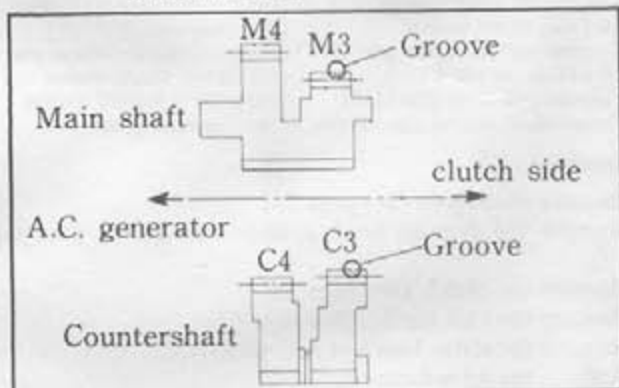

Fig. 3-58
4. The main shaft and countershaft 3rd gears have grooves cut in their peripheries. Install the main shaft and countershaft 3rd and 4th gears as shown in Fig. 3-58.